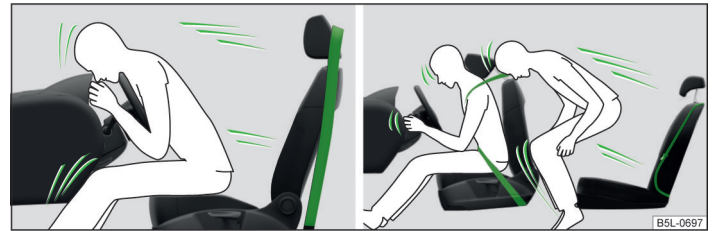

Fig. 137 Driver without a fastened seat belt/rear passenger without a fastened seat belt
- In the event of a frontal collision, occupants of the car not wearing a seat belt, are thrown forward and strike in an uncontrolled way parts of the interior of the car, such as steering wheel, dash panel or windscreen » [Fig. 137 - \[A\]](#). In certain circumstances you could even be thrown out of the vehicle, which could cause life threatening or even fatal injuries.
A rear seat passenger who has not fastened the seat belt is a danger not only to himself but also for those seated at the front » Fig. 137 - B.